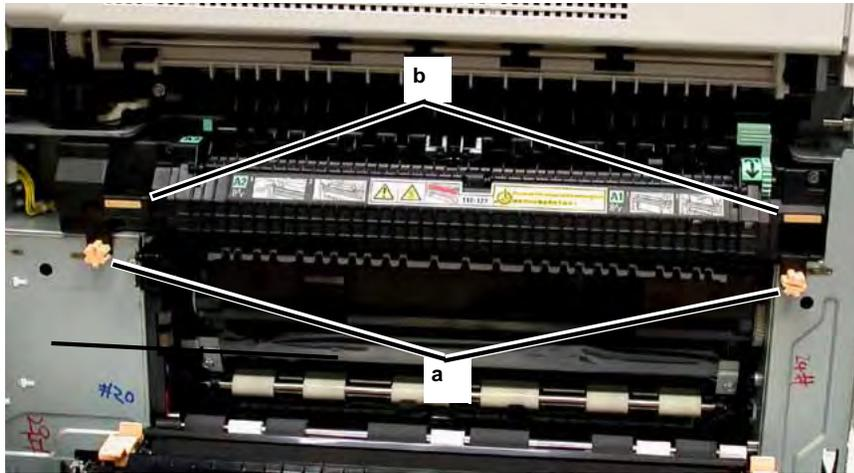

Figure 1 Removal
2. Open the Left Hand Cover and remove the Fuser (Figure 1).
- a. Loosen the knobs (2).